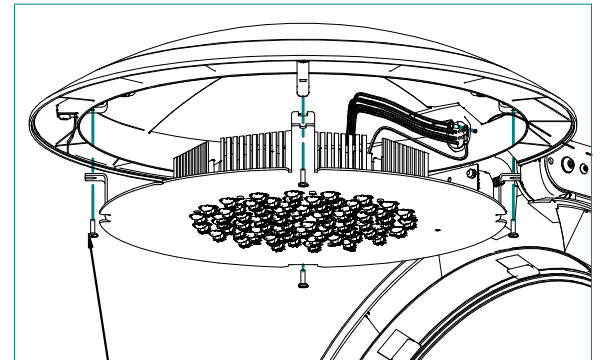

FIG. 7-2
4. INSTALL 72LED OPTICAL DECK VIA PROVIDED (4) 10-24 x 5/8 SCREWS (A84346) TO THE LED MOUNTING BRACKETS AT 4 POSITIONS. (FIG. 7-2)